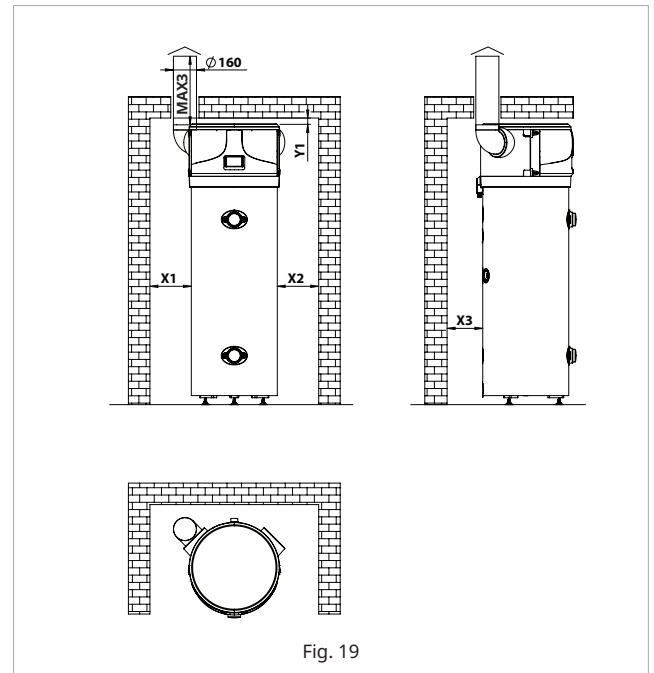

Fig. 19
5.3.2 Semi-ducted installation (the air outlet is ducted) Fig. 19